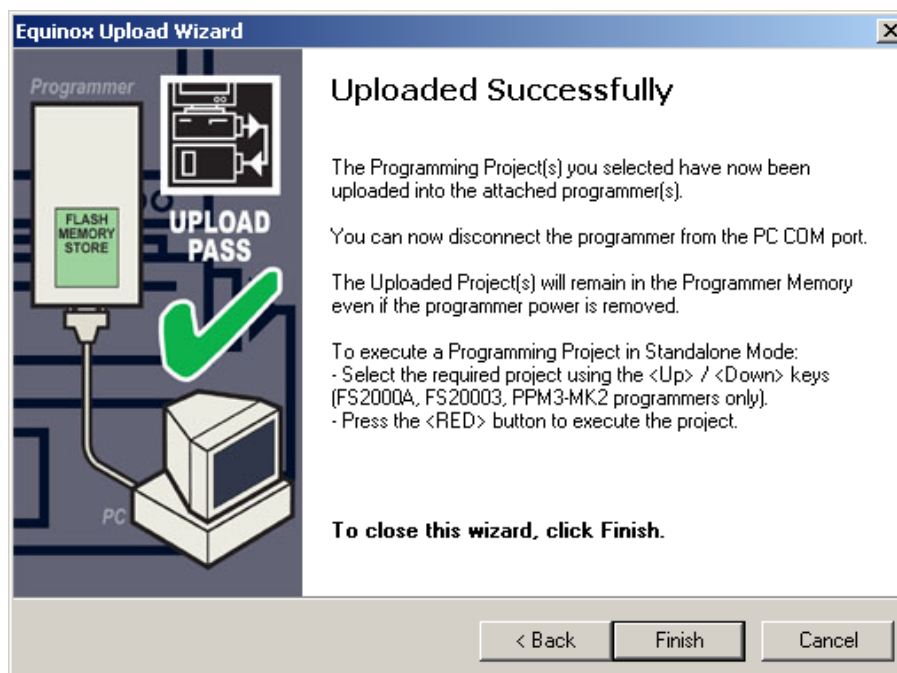

Figure 27 Programmer Upload Wizard – Final window
10. Press *Next* and the window depicted in Figure 27 will open.